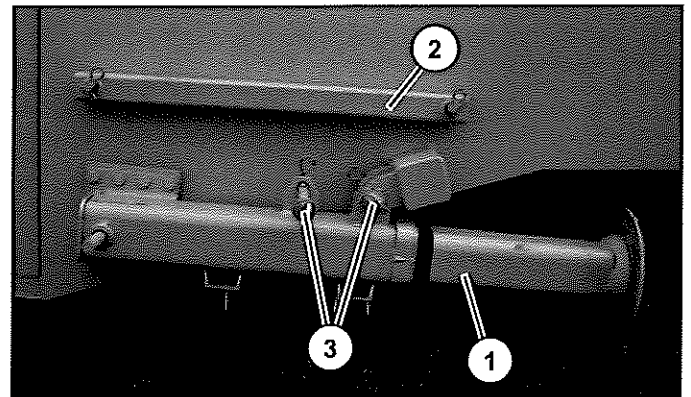

Figure 29
11. Move the jack legs (Item 1) (Figure 29) into the operational position. To adjust the jack legs first unpin and remove the brace arm.
12. Repin the brace arm (Item 2) (Figure 29) into the operating position.
13. Swing the jack legs up and pin (Item 3) (Figure 29) into place.